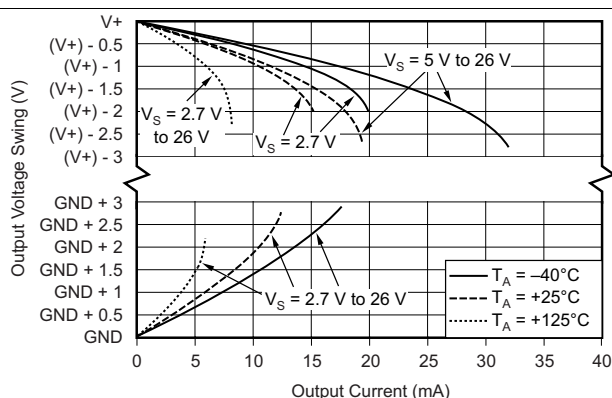

Figure 10. Output Voltage Swing vs Output Current
(1) Full range $T_A = -40^\circ\text{C to } 125^\circ\text{C}$.
(2) RTI = referred to input.
(3) Not production tested.
(4) See Figure 10, Output Voltage Swing vs Output Current, in the Typical Characteristics section.